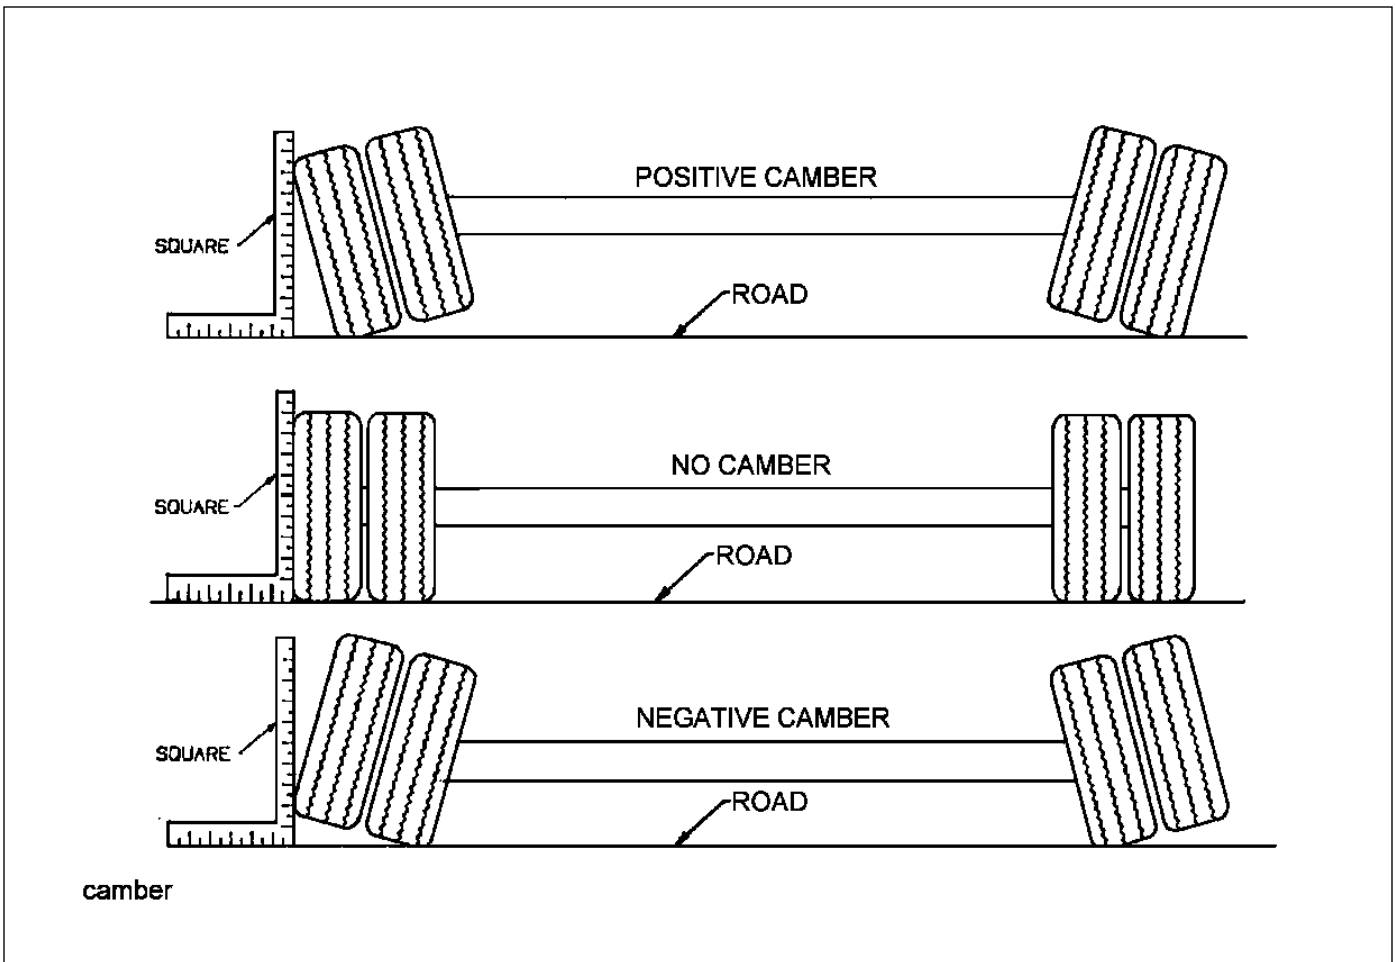

Figure 4-7: Examples of Camber
4. Follow the same procedures as in **steps 2 and 3**, except place the axle gauge above and below the axle. If gauge point gap is found, the axle has positive or negative camber. The trailer axle has no camber from the factory. If it is found to have positive or negative camber, axle replacement is necessary **(See Figure 4-7** for examples of camber).